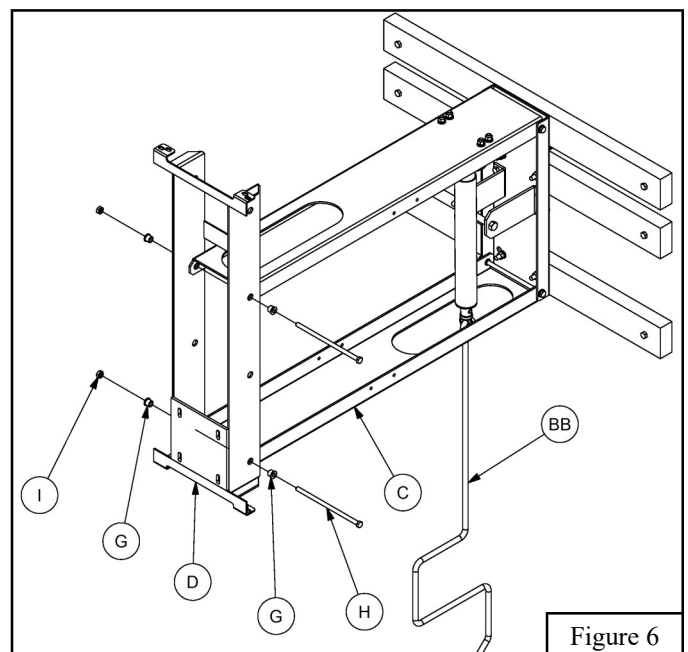

Figure 6
8. Attach the *Backboard "H" Frame* (D) to the upper and lower *Extension Channels* (C) using *Pivot Bushings* (G), $3/8'' \times 8''$ *Hex Bolts* (H) and $3/8''$ *Thin Lock Nuts* (I). Tighten the $3/8''$ *Thin Lock Nuts* (I) and then reverse $1/2$ turn to allow free movement. See Figure 6.
9. Using the *Crank Handle* (BB) attempt to raise and lower the *Backboard "H" Frame* (D) by placing the hook on the end of the *Crank Handle* (BB) in the eye on the *Crank* (O) and rotate. If the extension arm assembly doesn't move freely, loosen all pivot points.